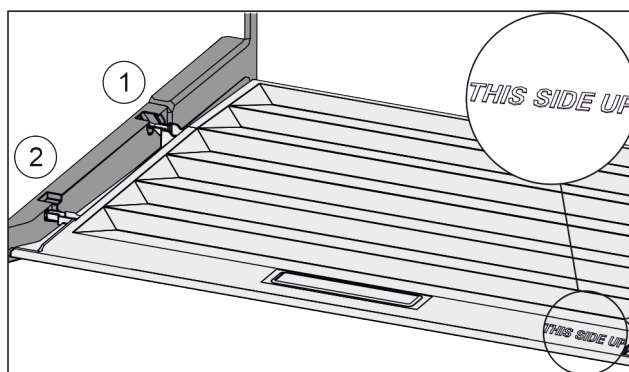

Fig. 73
- Insert the lip of the cover over the opening of the rear bracket Fig. 73 (1) and click into place Fig. 73 (2).